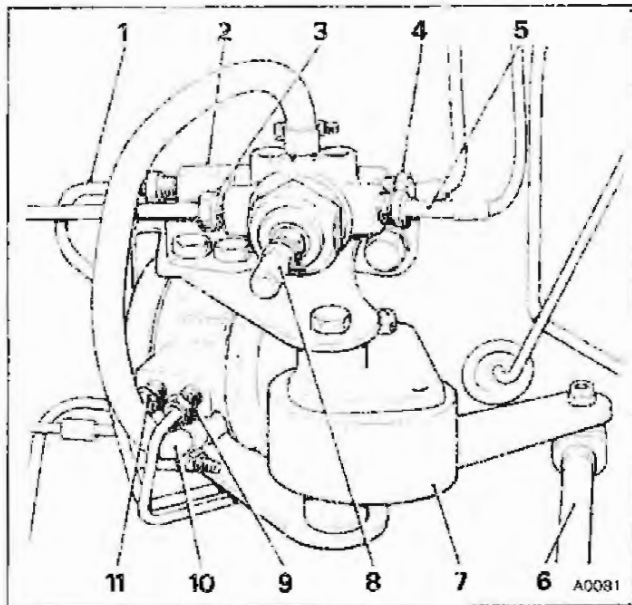

Fig. 3
- 17 Re-align and fit the minimum pressure valve to strut feed pipe into the upper port of the minimum pressure valve (see fig. 3, item 4).
- 18 Re-align and fit the strut drain to minimum pressure valve return pipe into the lower port of the minimum pressure valve (see fig. 3, item 5).
- 19 Fit the strut drain to reservoir return pipe, to the lower port of the minimum pressure valve (see fig. 3, item 3).